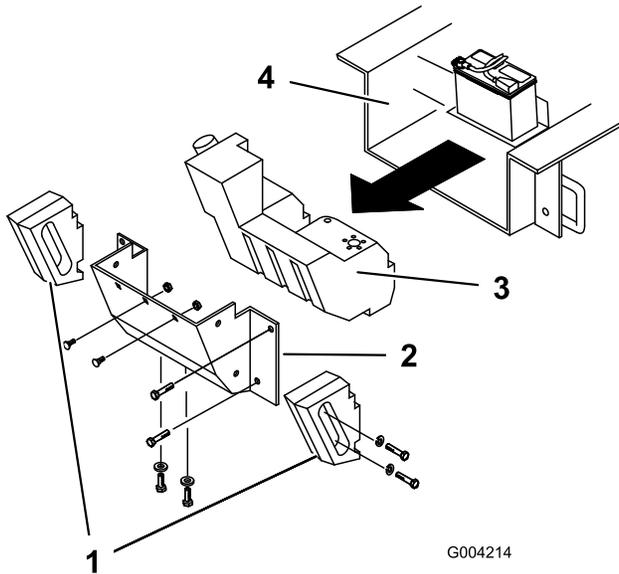

Figure 55
Over time, the chassis under the engine collects dirt and debris that must be removed. Using a flashlight, open the hood and inspect the area under the engine on a regular basis. When the debris is 1 to 2 inches deep, complete the following procedure (refer to Figure 55 throughout this procedure):
4. Remove the bolts, washers, and lock washers securing the two side weights, removing the weights (Figure 55).
7. Remove the six nuts and bolts securing the rear panel, removing the panel (Figure 55).
10. Slide the fuel tank to the rear (Figure 55).
16. Slide the fuel tank part way into the chassis (Figure 55).
21. Replace the rear panel and secure it with the six bolts and nuts removed previously (Figure 55).
23. Install the side weights with the bolts, washers, and lock washers removed previously (Figure 55).